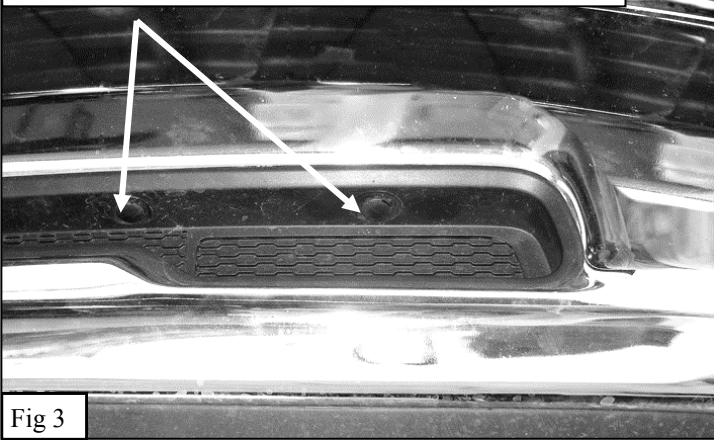
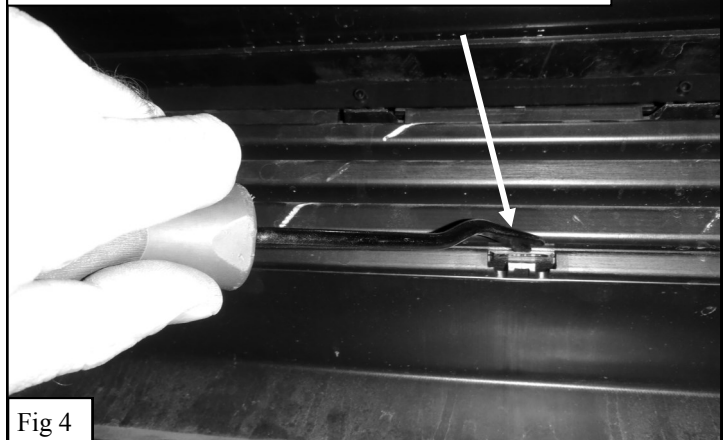

Fig 3
Fig 4
3. Remove the plastic bumper “tow pocket inserts”: For 2009—2012 vehicles, remove the inserts by removing the 2-piece plastic clips at the top of the panel, (Figure 3). Note: Use a flat-blade screwdriver to first pop the center pin out to release the clip. For 2013+ vehicles remove the two plastic bumper inserts that are attached with (4) M6 fasteners from the inside of the bumper (Figure 2). For “Express” and “Sport” vehicles pry on the molded plastic clips to pop the bumper insert loose (Figure 4). Note: For “Express” and “Sport” vehicles it will be very difficult to completely remove the insert from the vehicle. In this case it should be slid from one side to the other in order to allow room to install the Tow Pocket Support Straps.